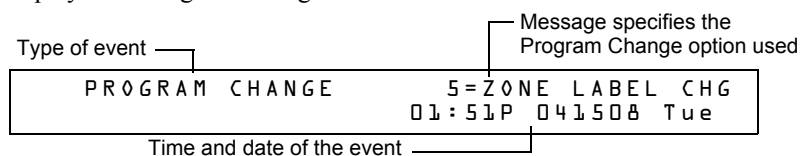

Figure 4.18 Sample Program Change Event Display
- Programming entries (Program Change and Status Change, but not Read Status), along with a number (0-9) indicating the programming submenu (for example, 0=Clear). For an example, see Figure 4.18.